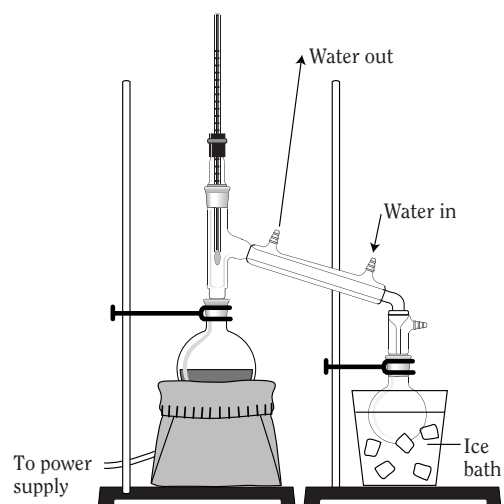

Figure 2. Steam Distillation Apparatus.
4. Place the one-piece custom distillation head (or a three-way adapter, followed by a condenser and a second adapter) into the distilling flask (see Figure 2).